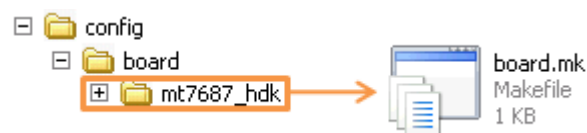

Figure 16. The Path of board.mk
- 3) **board.mk** is located at `<sdk_root>/config/board/<board>/board.mk` (see Figure 16) and defines the extra include paths to the header files related to the development board.